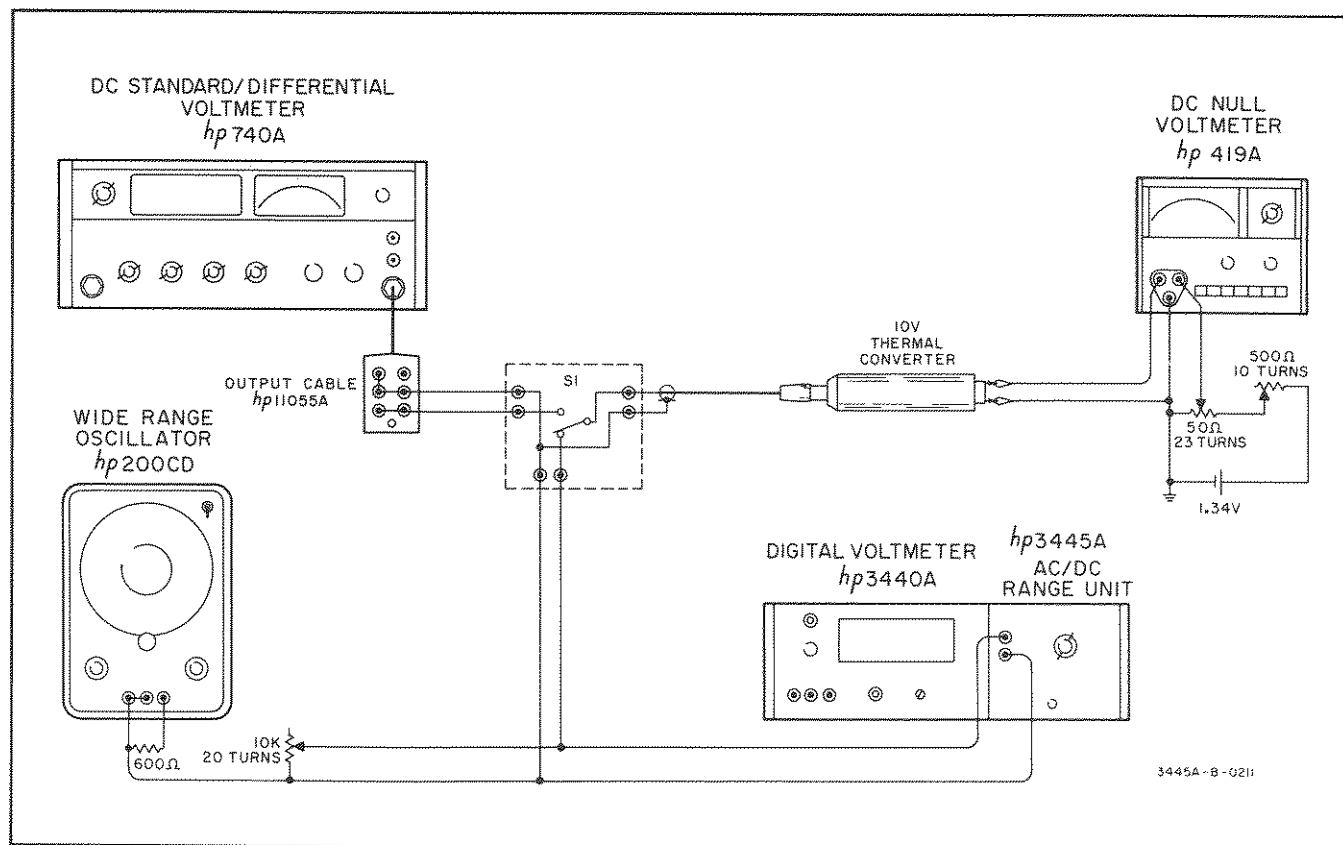

Figure 5-2. 10 V AC Accuracy Check
- Figure 5-2 describes the test arrangement recommended.
- Connect the Model 3440A/3445A as shown in Figure 5-2. Set Model 3445A FUNCTION to AC; RANGE to 10 V.
- Figures 5-2 and 5-3 describe the test arrangements recommended. The procedures outlined in Paragraphs 5-15 and 5-16 will be used to obtain calibration levels of 9 and 90 v at the frequencies specified.
- Connect test arrangement as described in Figure 5-2.